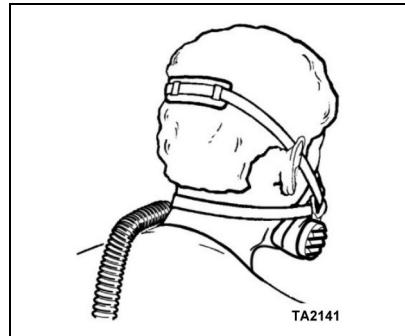

Fig. 2
6. Pull the head pad onto the crown of the head (Fig. 2) and adjust the harness, feeding the harness through the anchors to equalise the pull of the harness.